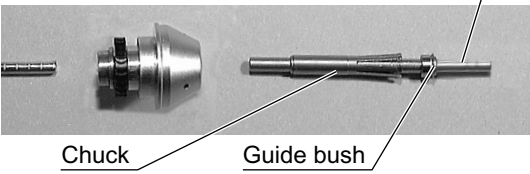

Fig.17
- (3) After removing the rotor shaft nut, carefully push out the chuck with the test bur or shank of the bur from the back. The guide bush as well as the chuck can be removed. (Fig. 17)